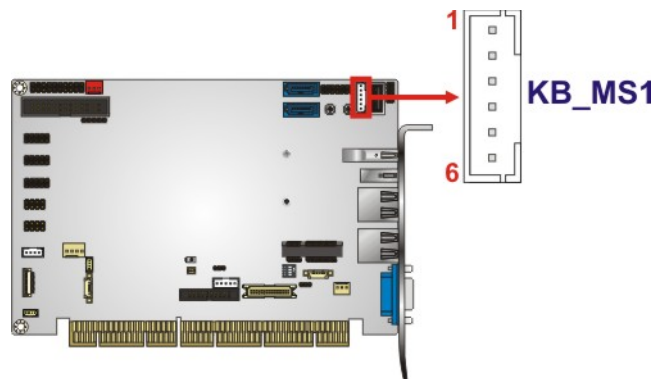

Figure 3-14: Keyboard and Mouse Connector Location
- CN Location:** See **Figure 3-14**